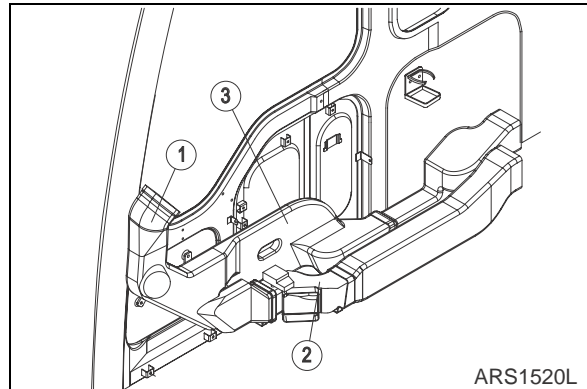

Figure 12
14. Install air duct (3, 2 and 1, Figure 12) located at right side of cab.
NOTE: *Connect wire connector of duct (2, Figure 12).*